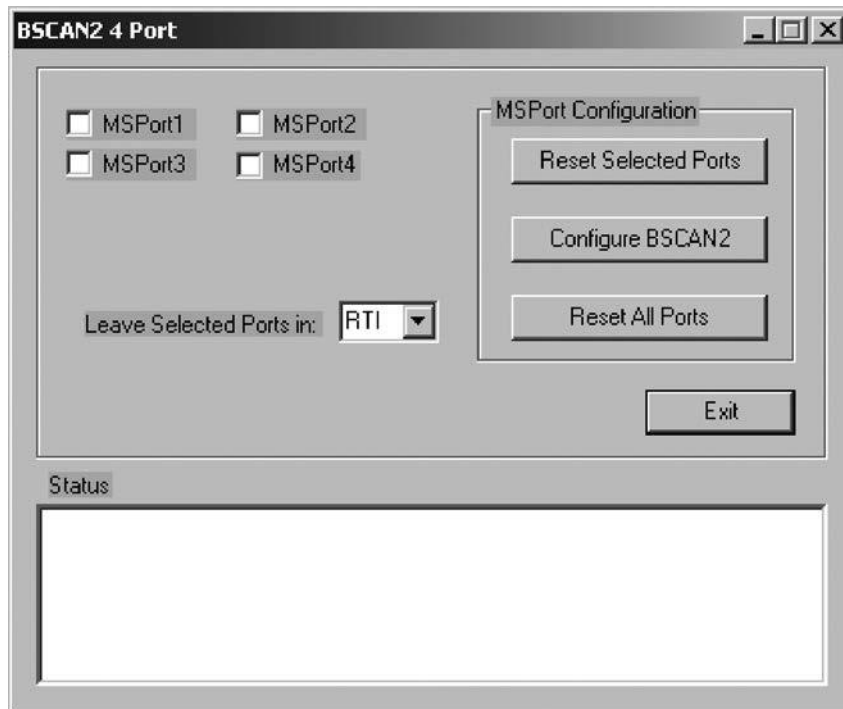

Figure 3.5. BSCAN2 Configuration Dialog (4-Port Implementation)
2. Open the utility, found in the ispTools menu (**ispTools > BSCAN Config**). Choose the appropriate implementation. The resulting dialog will look similar to Figure 3.5.